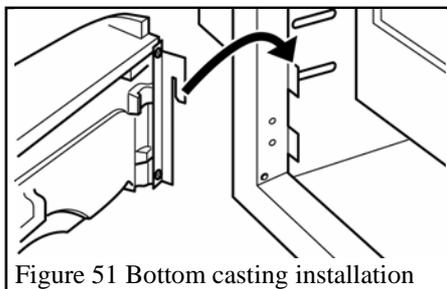

Figure 51 Bottom casting installation
- Attach the bottom casting unit by hooking over the lower tabs at the firebox sides. See figure 51.